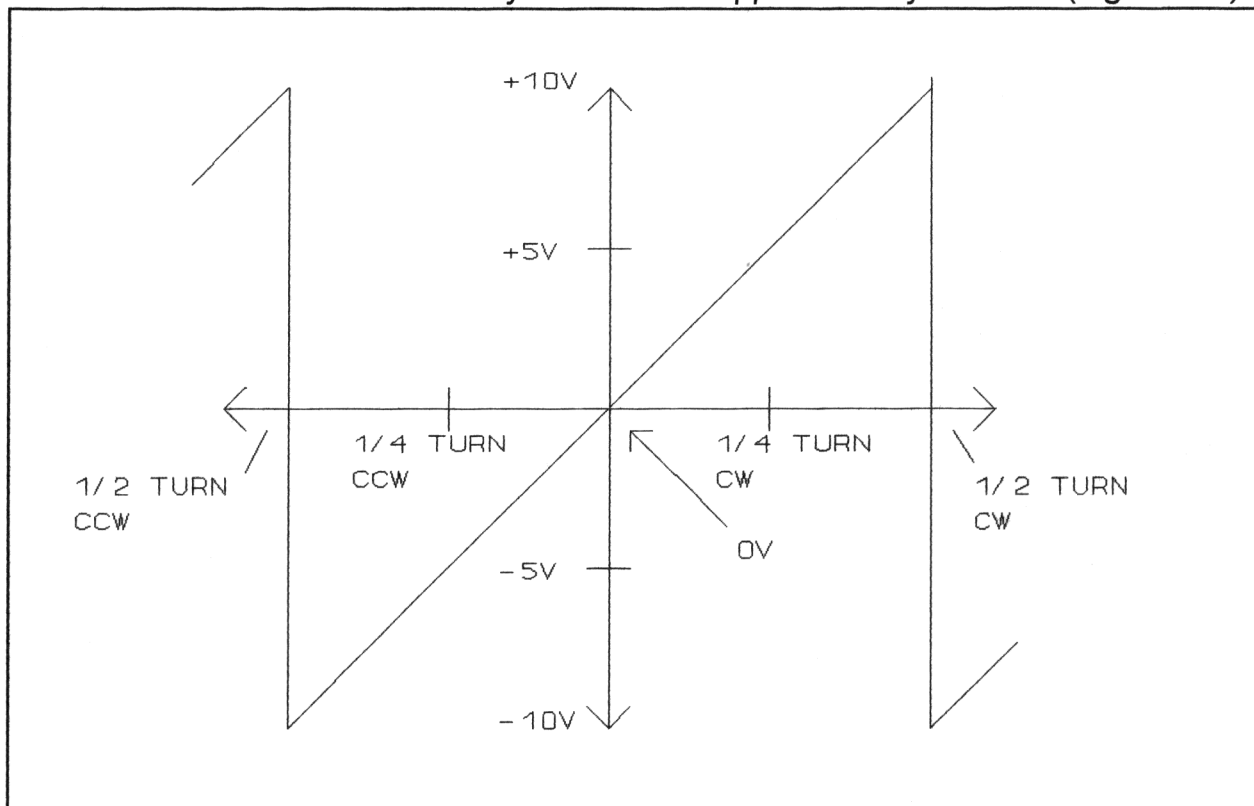

Figure 8-4 POS OUT Voltage versus Encoder Position
7. Rotate the shaft clockwise 1/4 turn while observing the meter. The meter should smoothly increase to approximately +5V dc (Figure 8-4).
If the voltage levels are opposite than those shown in Figure 8-4, the encoder channels may be reversed.